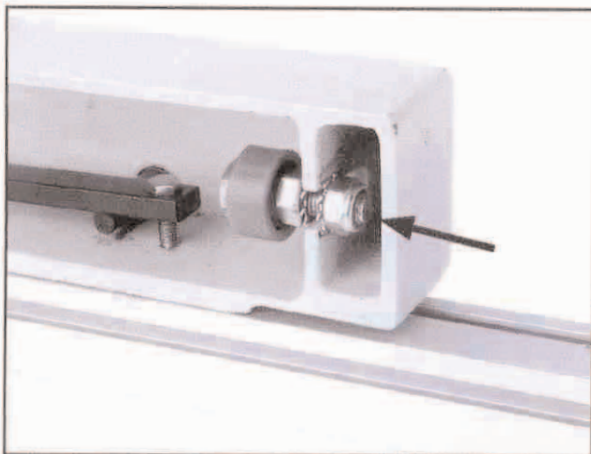

**Figure 31.** Rip fence rail adjustment nuts.
- Tighten all of the nuts securing the rail against the table (see **Figure 31**) and tighten the outside nuts against the adjusting nuts.